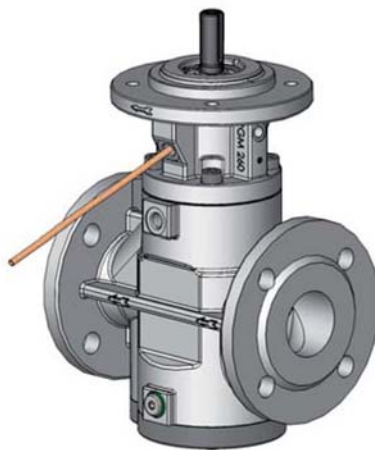

Fig. 1
- ▶ Insert an arbor made of a soft material (wood, plastic, etc.), see Fig. 1.